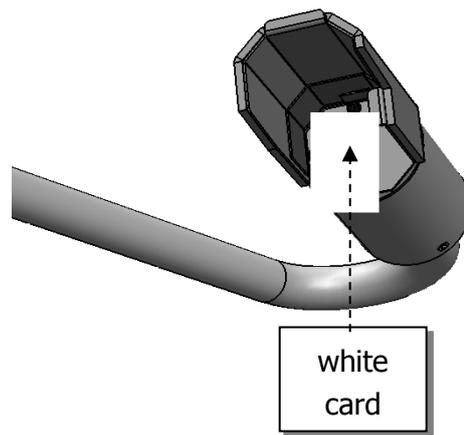

Figure 4-2 Transmitter Hood with White Card
Step 4. Insert a white card (or paper) in the transmitter hood that blocks and almost touches the window (see Figure 4-2 Transmitter Hood with White Card).
Step 5. Insert a white card in the forward scatter receiver hood that blocks the window, and almost touches it (similar to Figure 4-2 Transmitter Hood with White Card).